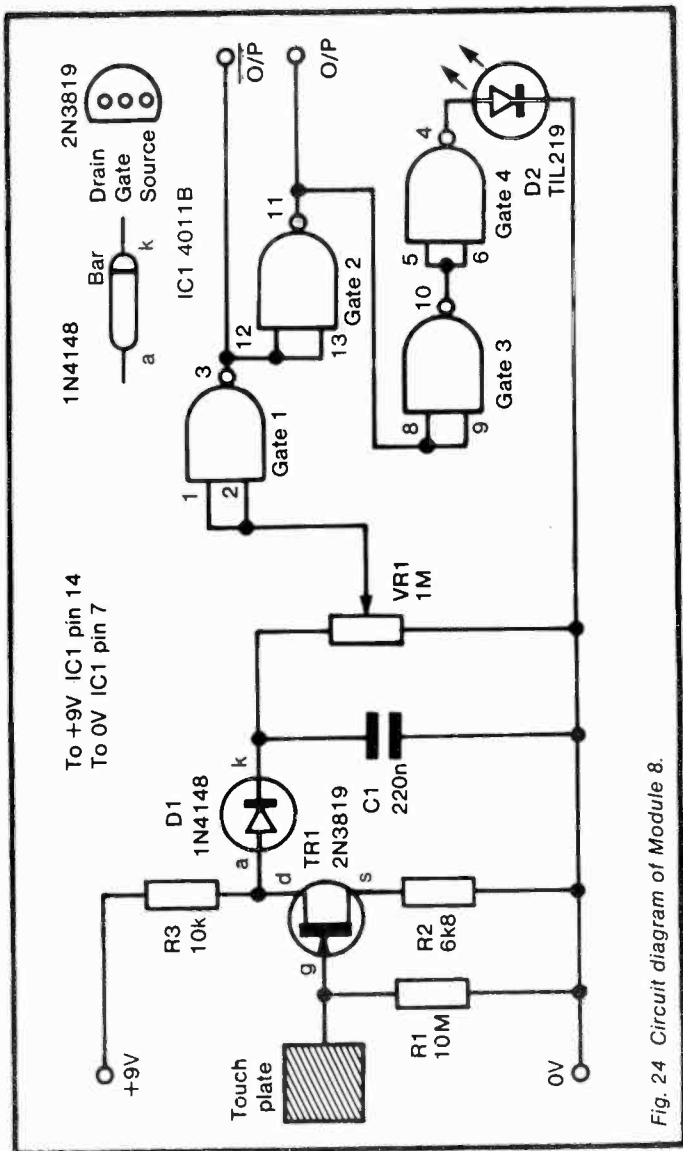

Fig. 24 Circuit diagram of Module 8.
*Circuit diagram:* see Figure 24.